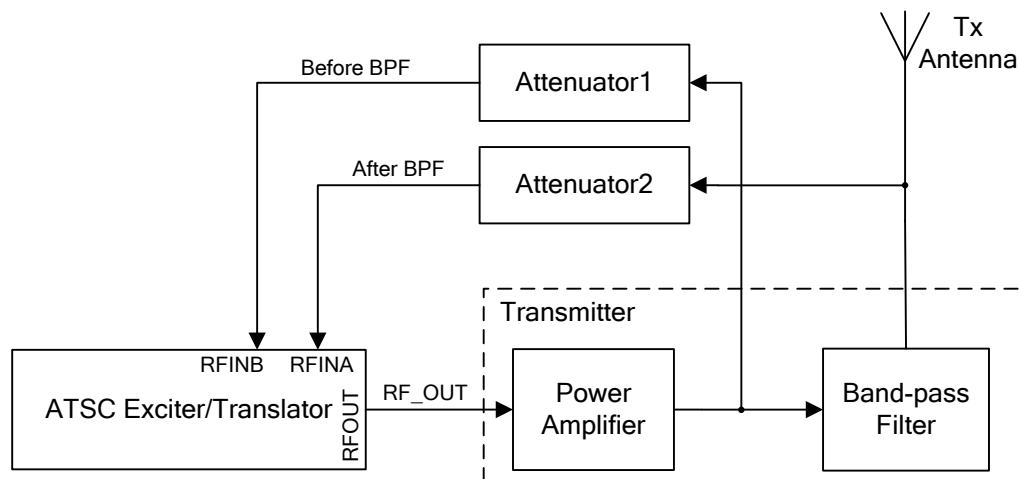

Figure 1 Connection with Transmitter of UPDATE Function
- 2) If the signal level is within the range, connect the transmitter feedback signals which are *before the* band-pass filter to port [RF\_IN\_B] and *after* the band-pass filter to port [RF\_IN\_A] respectively. Figure 1 below demonstrates the correct connection.